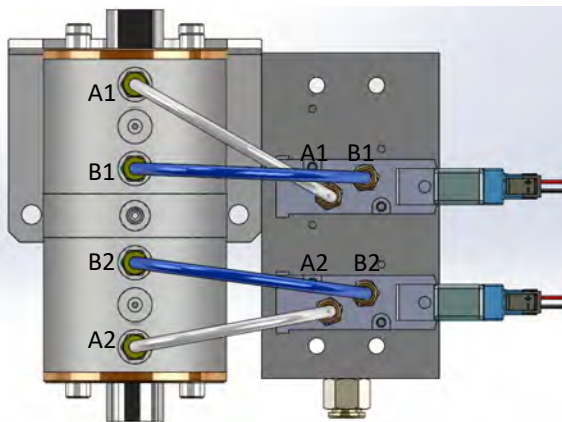

Figure 3-5: Normally Closed CV-310 Valve
- If normally-closed operation is desired for a CV-310 Valve, connect the solenoid pilot valves to the CV-310 Valve as shown in Figure 3-5.